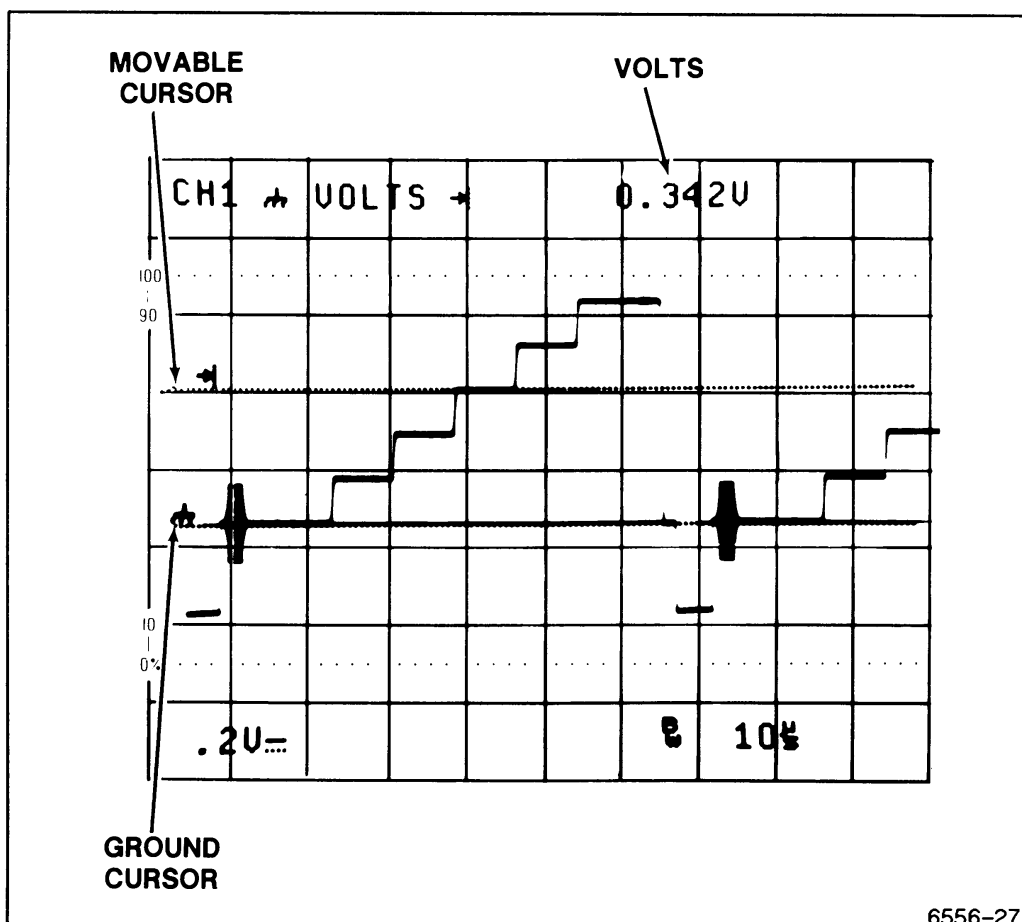

Figure 5-4. Voltage measurement.
- Position the independent cursor using the →| control to the measurement point on the waveform and read out the value of the cursor position (shown in Figure 5-4). (The ←| OR DELAY control has no effect.)
The test signal used for illustration purposes in Figure 5-4 is a video test signal. For triggering on a video waveform, select TV LINE Trigger COUPLING and negative (↘) Trigger SLOPE; for other signal types, no change of COUPLING or SLOPE is required.